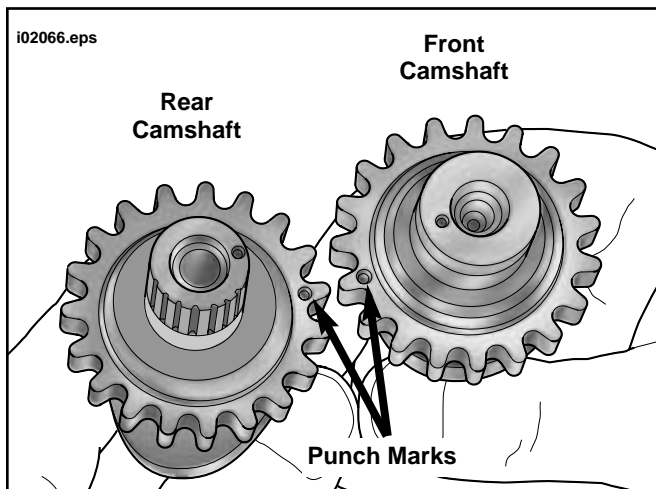

Figure 6. Align Punch Marks on Teeth of Camshaft Sprockets
6. Align punch marks on teeth of secondary cam sprockets (outboard faces). See Figure 6. Using a colored marker, carefully mark the punch mark locations on the inboard side of the sprocket teeth. These marks are needed to observe proper orientation of the camshafts when they are pressed into the bearings.